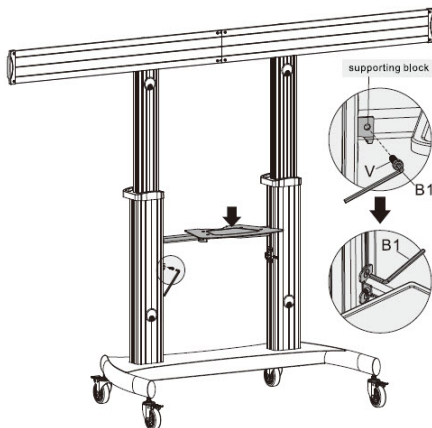

Figure 10
1. Lower the **Media Shelf (K) Assembly** from above into the **Supporting Blocks**, located on the insides of the **Columns (E+F)**. Align the holes in the **Support Bar (O)** with the holes in the **Supporting Blocks**. (Figure 10)
2. Insert one **M6 x 25 mm Hex Head Screw (V)** through the hole in the **Supporting Block** on the **Left Column (E)** and into the **Support Bar (O)**.
3. Tighten the **M6 x 25 mm Hex Head Screw (V)**, using the **Hex Key (B1)**.
4. Repeat steps 2-3 for the **Right Column (F)**.
5. Determine the desired mounting height for the **Media Shelf (K) Assembly**.
6. Hold the **Media Shelf (K) Assembly** and loosen the two **M6 x 25 mm Hex Head Screws (V)** that secure the **Support Block** to the **Left Column (E)**, using the **Hex Key (B1)**.